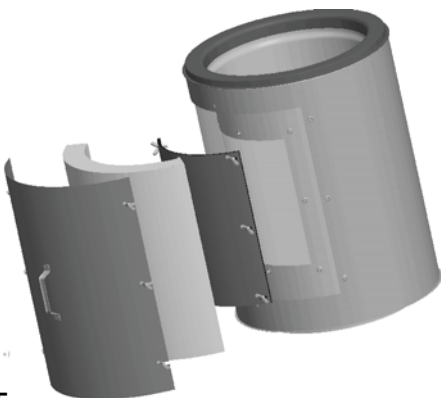

Figure 75
4. Unscrew the eight (8) wing screws and set it in a safe place (**see figure 75**).
5. Remove the Inner cover and set it in a safe place (**see figure 75**).